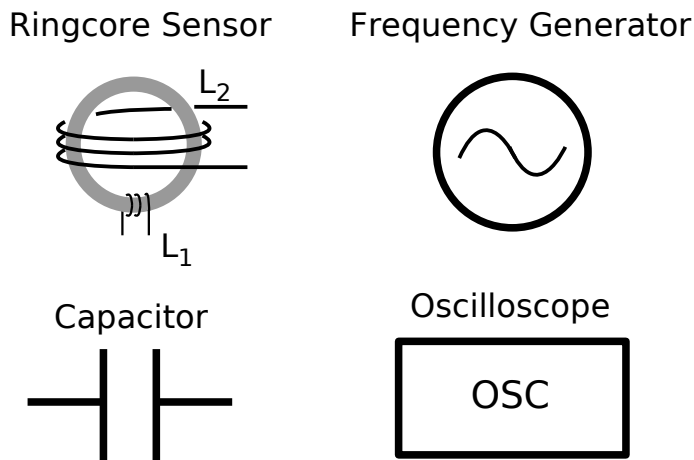

Figure 2: Components for a fluxgate magnetometer.
Assemble the four components (Fig. 2) into a fluxgate magnetometer: (1) Ringcore sensor with 2 coil systems ($L_1 = 0.64 \text{ mH}$ and $L_2 = 13 \text{ mH}$); (2) Frequency generator ($f = 8 \text{ kHz}$); (3) Capacitor ($C = x \text{ nF}$); and (4) Oscilloscope.